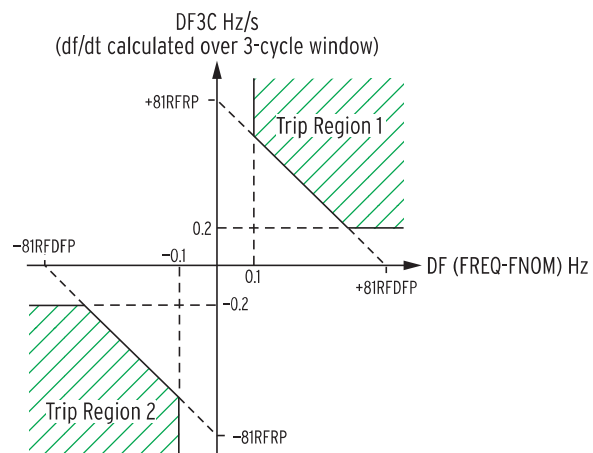

Figure 3 81RF Characteristic
The fast rate-of-change-of-frequency protection, 81RF, provides a faster response compared to frequency (81) and rate-of-change-of-frequency (81R) elements. The fast operating speed makes the 81RF element suitable for detecting islanding conditions. The element uses a characteristic (see Figure 3) based on the frequency deviation from nominal frequency ($\Delta f = \text{FREQ} - \text{FNOM}$) and the rate-of-change of frequency (DF3C) to detect islanding conditions. A time window of three cycles is used to calculate the value of DF3C. Under steady-state conditions, the operating point is close to the origin. During islanding conditions, the operating point enters Trip Region 1 or Trip Region 2 of the characteristic, depending on the acceleration or deceleration of the islanded system. (81RFDFP in Hz) and (81RFRP in Hz/sec) are the settings used to configure the characteristic.